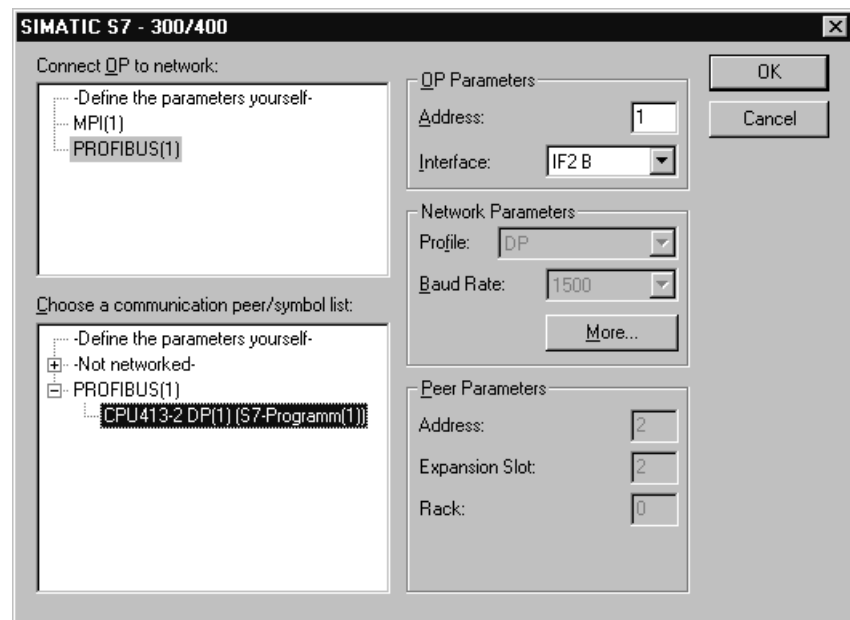

Figure 12-12 Example of Connecting the Operating Unit to the Network and CPU
4. In the dialog box which then appears, select the network and the PLC to which you wish to connect the operating unit. The network parameters are automatically adopted. Figure 12-12 shows an example configuration.